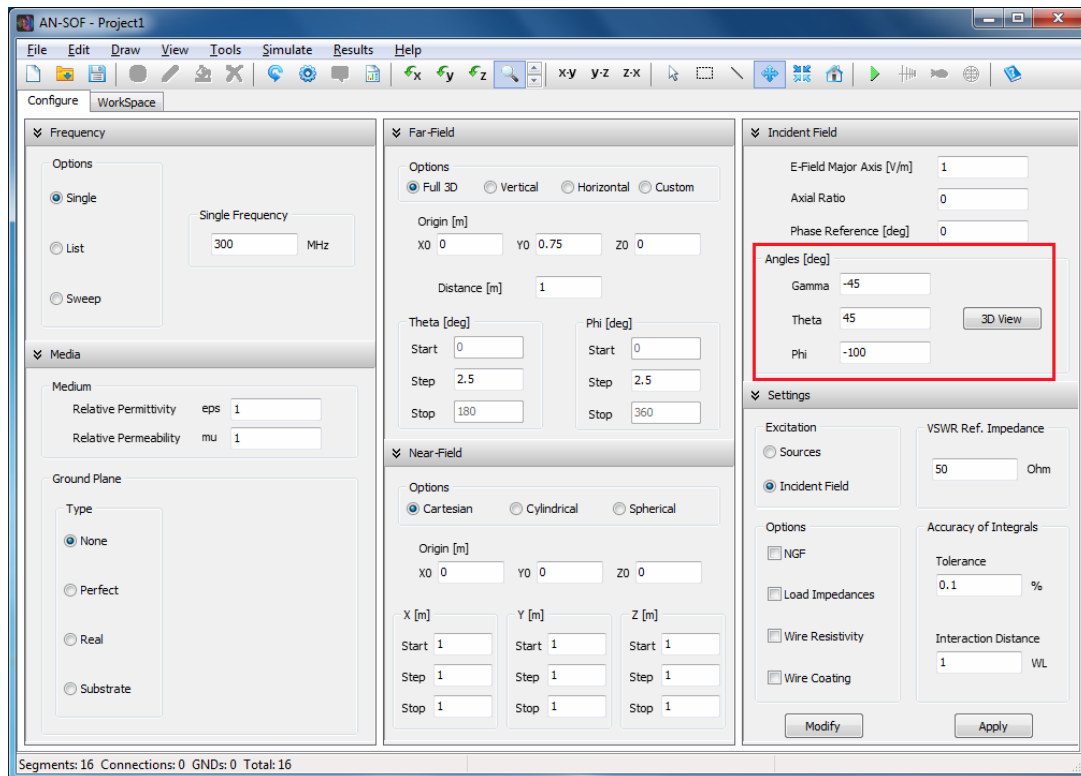

Fig. 9.3: The Gamma, Theta and Phi angles entered in the Incident Wave dialog box will appear in the Incident Field page of the Configure tabsheet.
5. Close the Incident Wave dialog box. The angles that you entered in the Incident Wave dialog box will appear in the Incident Field panel of the Configure tabsheet, Fig. 9.3.